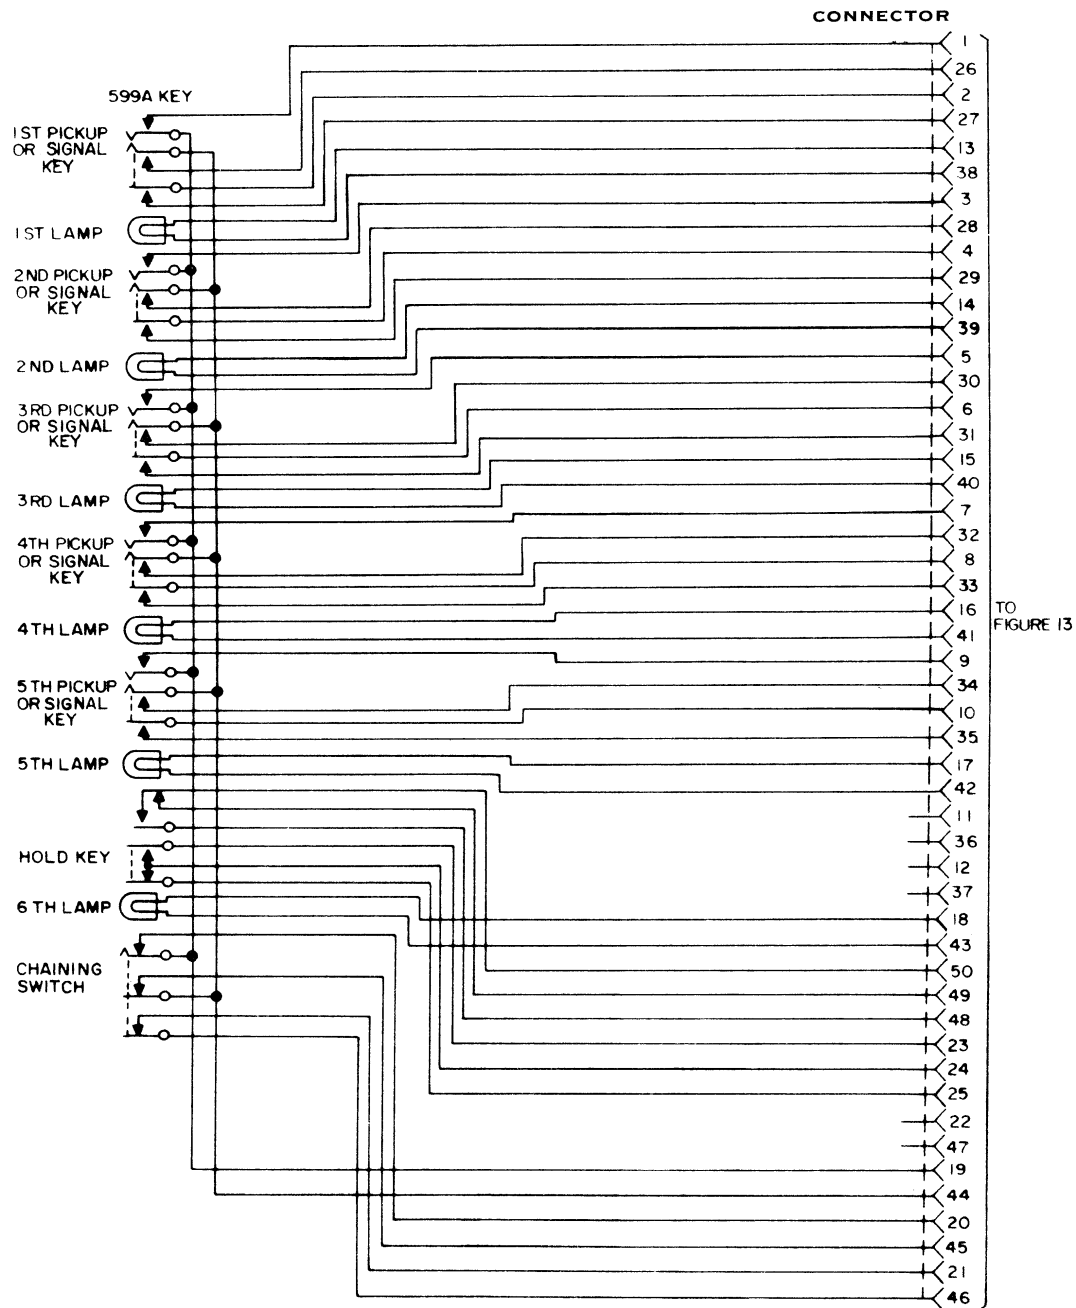
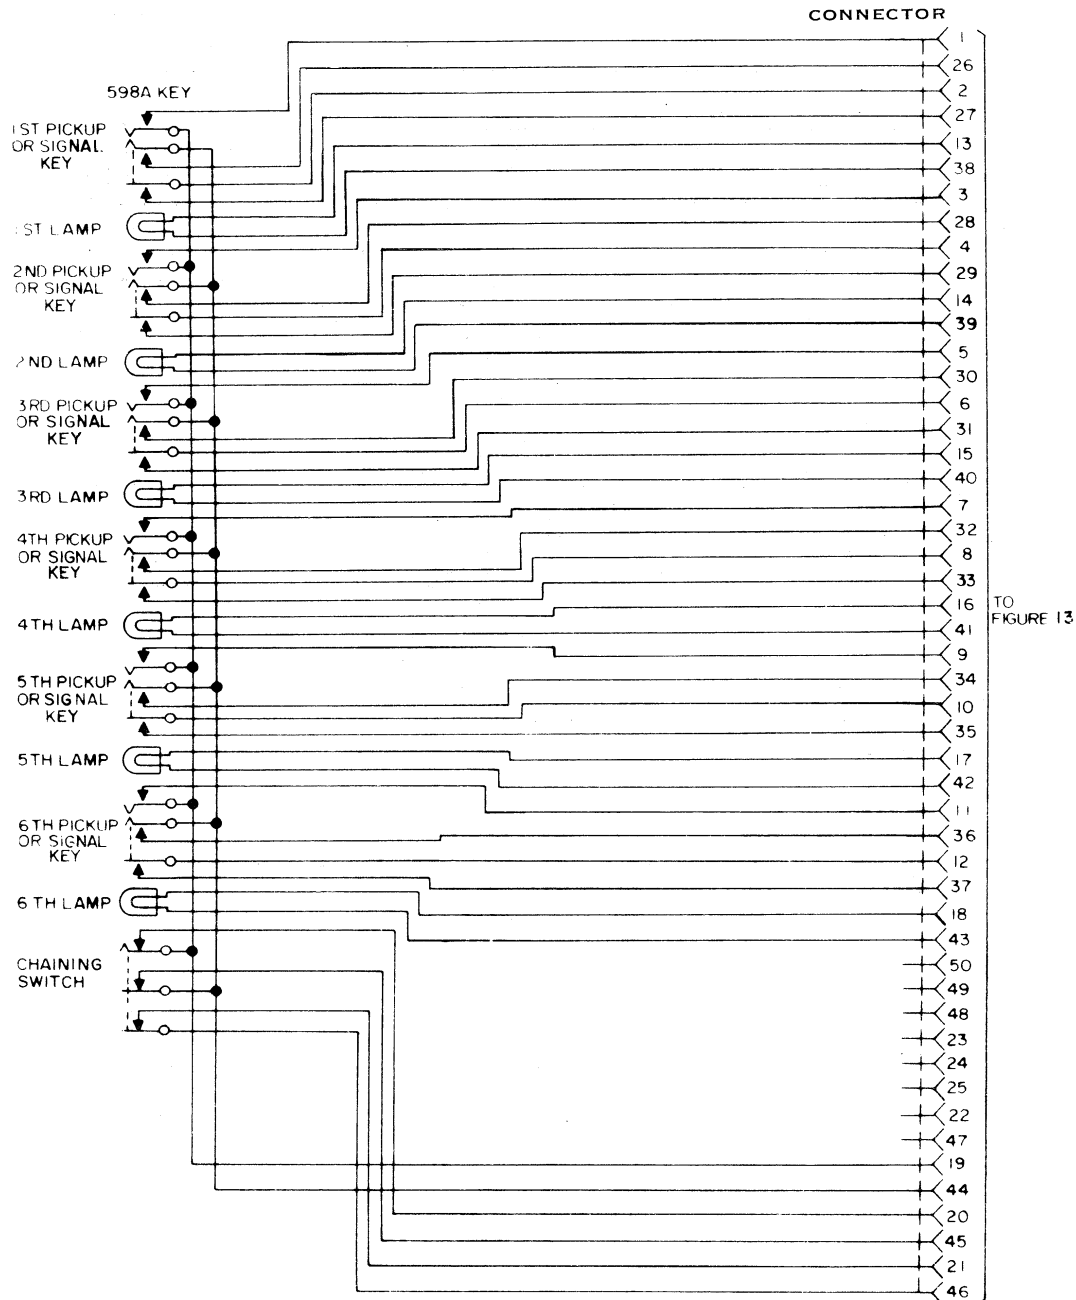

Figure 9. Connections for WECO 599A Keystrip Unit
Figure 11. Connections for WECO 598A Keystrip Unit.
4.01 Type 598A pickup keys may be converted to individual and common signaling. Type 599A and 599B keys (Figures 9 and 10) and their associated cables are readily adaptable for individual signaling but not common signaling. Type 598A pickup keys (Figure 11) may be converted to individual and common signaling. See Table 1 for wiring changes.
*This conversion table covers only the Type 618BW telephone sets with D120C mounting cords, with date of manufacture of III-68, or later. For telephone sets with cords manufactured prior to III-68, see Figure 11 for station busy lamp circuit. This table covers all Type 608CW Telephone Sets.